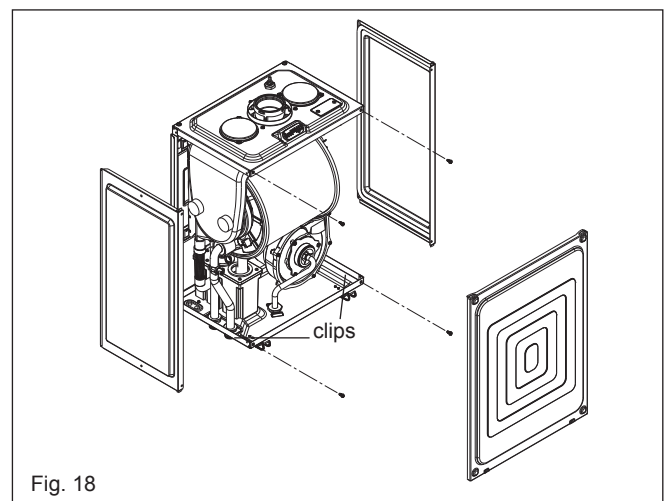

Fig. 18
6.4.1 AIR BOX FRONT COVER REMOVAL (fig. 18)